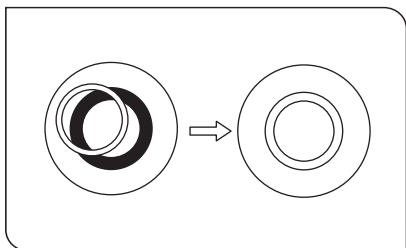

Fig. 2
8. Use the optical element centering screw to center the phase contrast ring so that the bright ring overlaps the dark ring within the field of view. (Fig. 2)